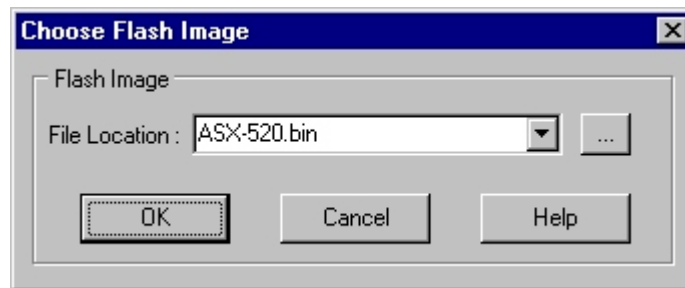

Figure 3-1. Choose Flash Image Window.
2. On the Choose Flash Image window (Figure 3-1), select the firmware file.